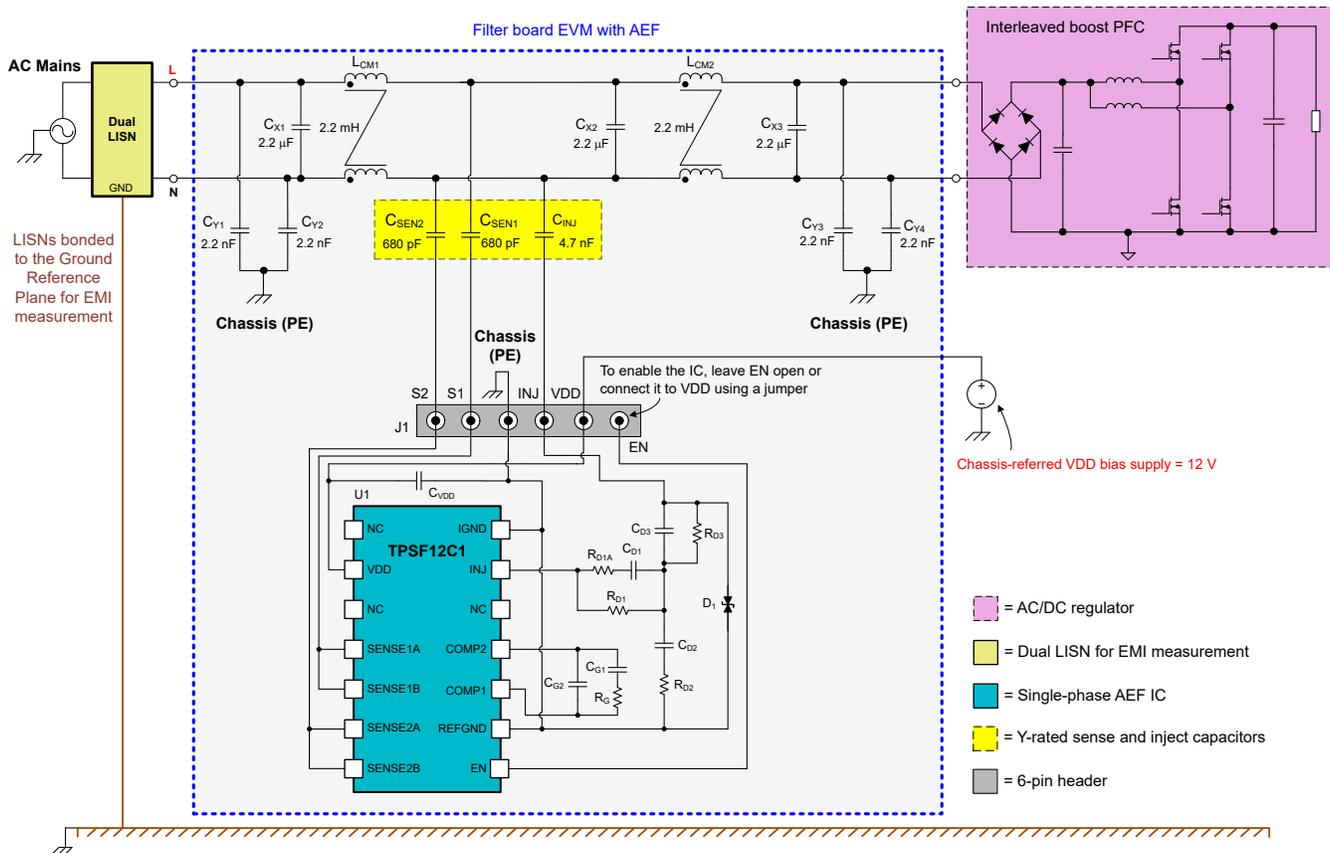

Figure 2-3. EVM Setup Schematic for High-Voltage Testing with AC/DC Power Stage Connected
Figure 2-3 shows the recommended setup to evaluate the performance of the TPSF12C1 with a power stage connected.
A two-phase interleaved boost PFC topology in Figure 2-3 represents a typical single-phase AC/DC regulator and is drawn for illustrative purposes. The setup is essentially agnostic to regulator topology.
- Using high-voltage safety precautions, connect the switching power stage as shown in Figure 2-3. **Depopulate components R1, R2 and C20 to maximize the clearance spacing from high-voltage nodes to ground** adjacent the SMB jacks. Turn the regulator ON and perform EMI measurements similar to the procedure outlined in steps 3 and 4 above.